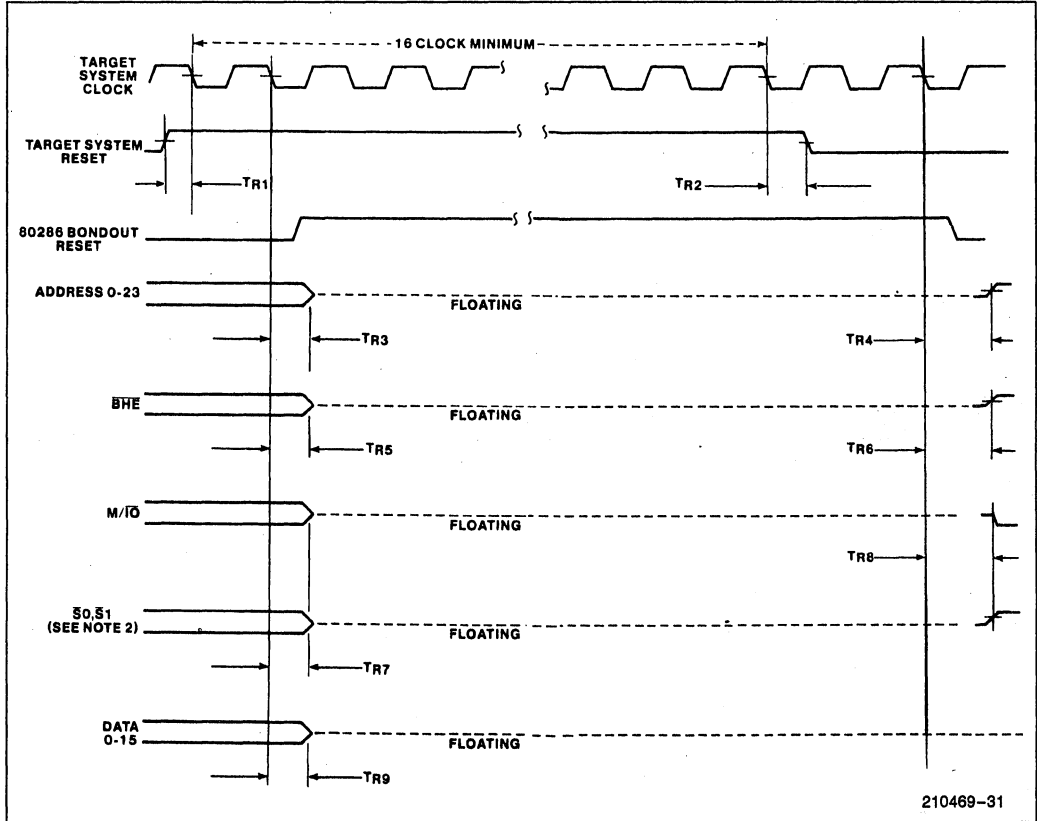

Figure 21
state during RESET can be found in the iAPS-286/10 data sheet. The effects of the two-clock delay and other emulator pin-state differences (as a function of target system RESET) are shown in Table 22. It should be noted that target system RESET has no effect if RSTEN is FALSE. The timing symbols used in Table 22, and Figures 21 and 22, are defined in Table 21.
**Table 21. Timing Signal Definitions for Table 22 and Figures 21 and 22**
Figure 21 and 22 show the RESET pin timing differences between the I2CICE 80286 probe and 80286 chip.